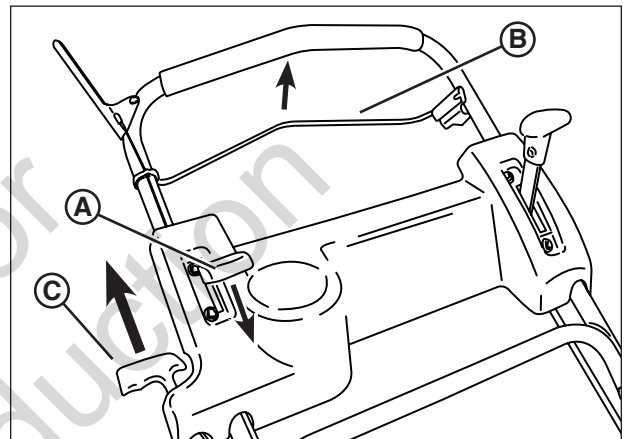

Figure 3: Starting the mower
1. Move the engine speed control **(A, Figure 3)** to the fast ('Rabbit') position.